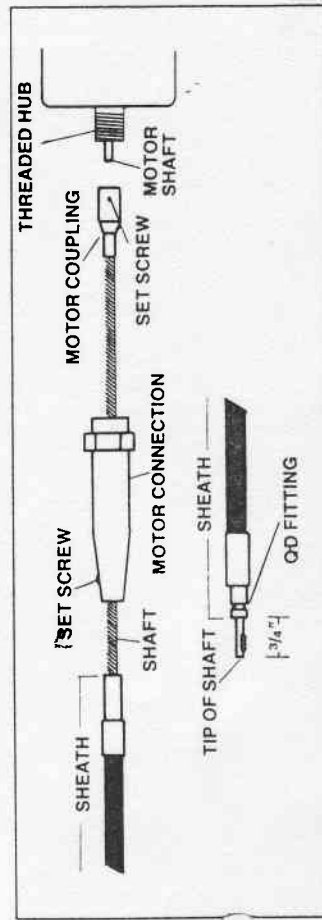

FIGURE 2
1. Remove the motor connection (see figure 2). This has a left hand thread and must be turned to the right to remove.